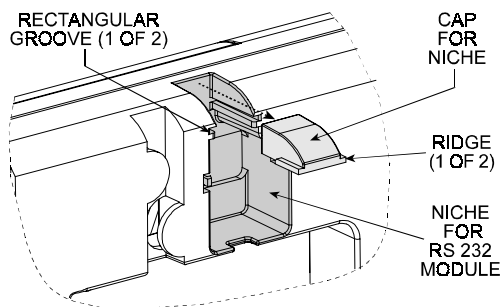

Figure 27. Removing the Cap from the RS232 Niche
- B. Remove the factory installed plastic cap by sliding it out along the grooves as shown in Figure 27.